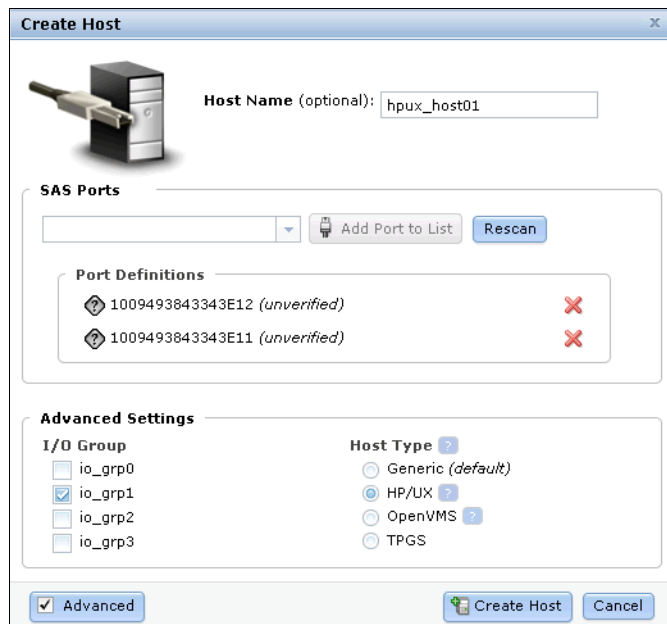

Figure 4-5 Creating HP/UX SAS host
4. As shown Figure 4-5, select HP/UX or TPGS if you are creating one of these types of hosts. In our example, an HP/UX host is created with permissions to access volumes from I/O Group 1.